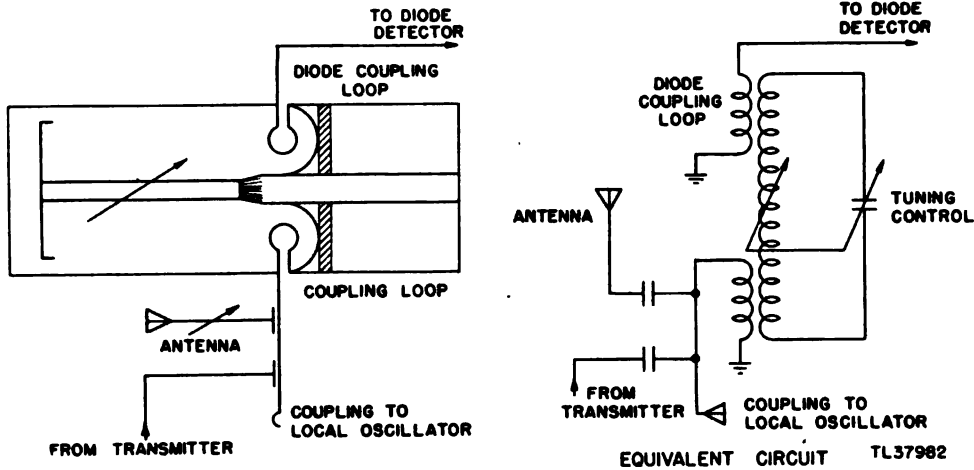

Figure 63. Variable line resonator, partial schematic, and equivalent circuit.
b. OPERATION. The variable line resonator is essentially a parallel tuned circuit (fig. 63); that is, it is a coaxial line whose distributed capacitance (between conductors) and distributed inductance (along the length of each conductor) are of such quantity as to enable the resonator to be tuned to the frequency range